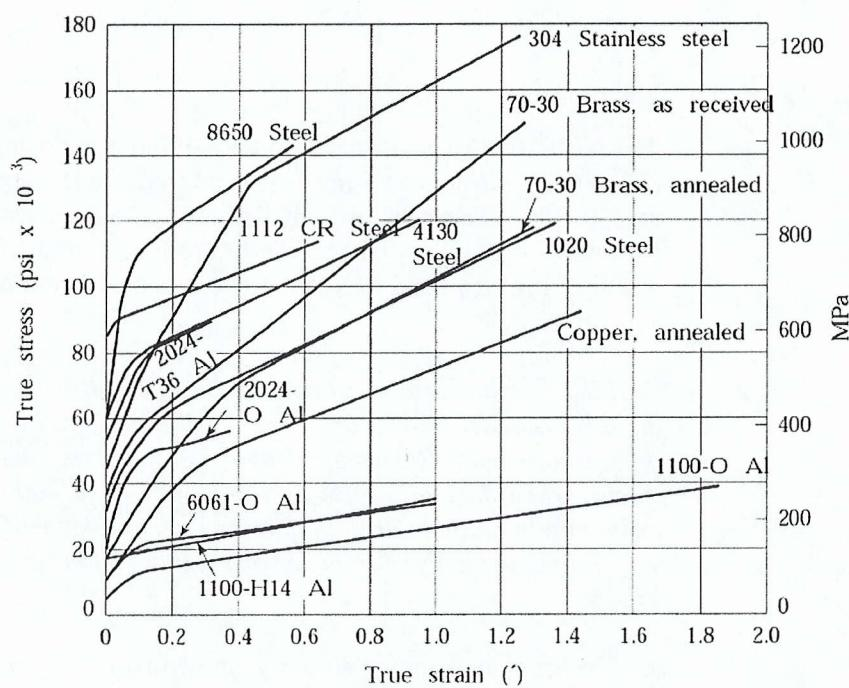

Figure 5/Gambarajah 5
- (iv) Calculate the torque needed. Remember, *torque per roll* is a product of F and a . (Use Figure 5 to read the true stress of 1020 steel)